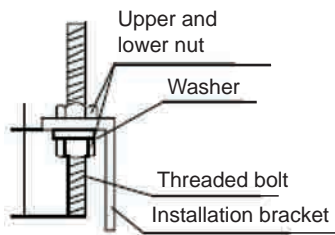

Fig. 3.2.11
2. Fix installation brackets on suspension threaded bolts (see Fig. 3.2.11).